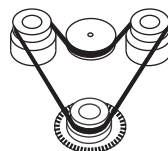

Fig.7 Rubber belt replacement
- Remove 4 fixation screws on the device bottom and remove the bottom plate. Replace the rubber belt (fig.7).